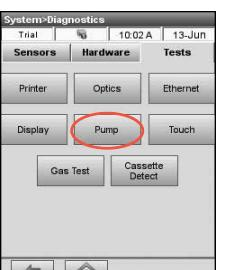

Figure 4: System Manager - Diagnostics > Tests > Pump
- Tap **Pump** (Figure 4) to test the pump motor. The pump should run smoothly without excessive noise. This diagnostic test automatically steps through all the speeds used during normal operation (7.5–120 rpm) and then returns to the Diagnostics> Tests tab.